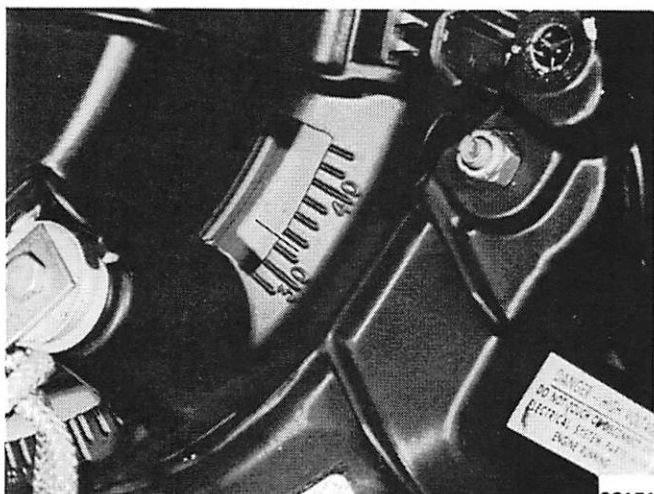

Figure 5. Timing at 33° BTDC
4. Adjust 2 elastic stop nuts on link rod until timing line on top side of ring gear is aligned with timing mark (33° BTDC) on starter housing. (Figure 5)